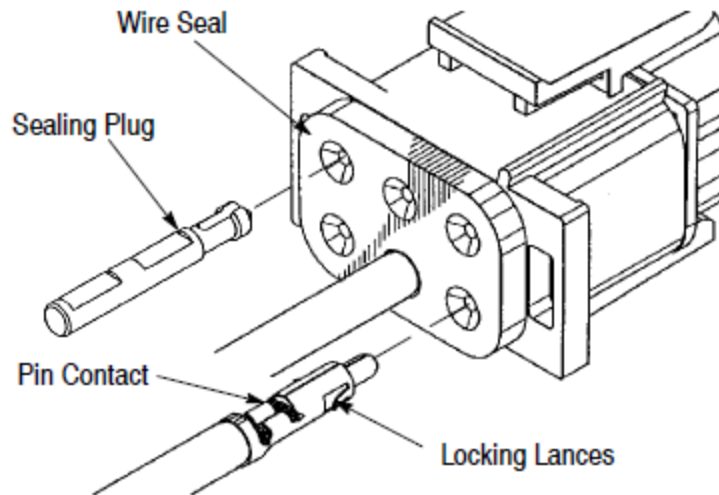

Figure 12
4. Reset contact locking lances to their original position before re--inserting contacts through wire seal and into housing. Seal any unused cavities with sealing plugs. See Figure 12. Damaged contacts must be replaced.